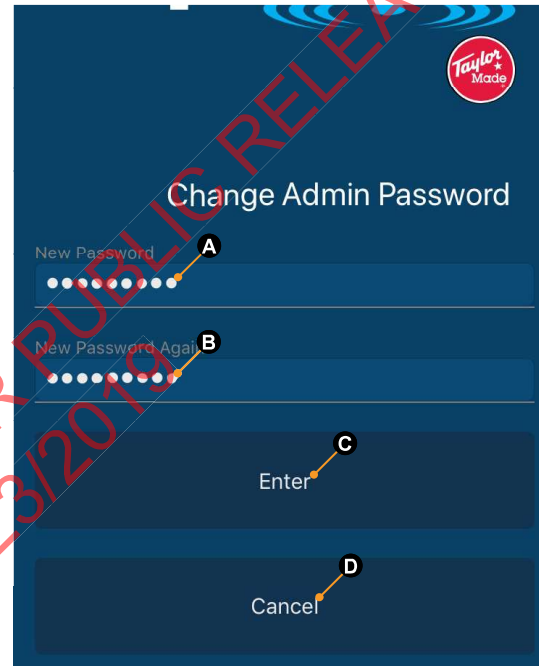

Fig.20
11. Tap the right bracket (>) to display the Change Admin Password screen (Fig.20).